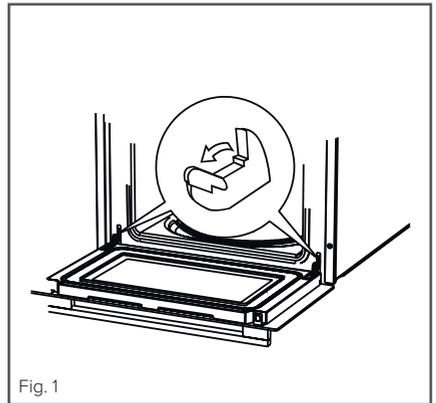

Fig. 1
- Lift and tilt the safety catch part of the hinge (Fig .1) so that it is fully extended and points towards the door.